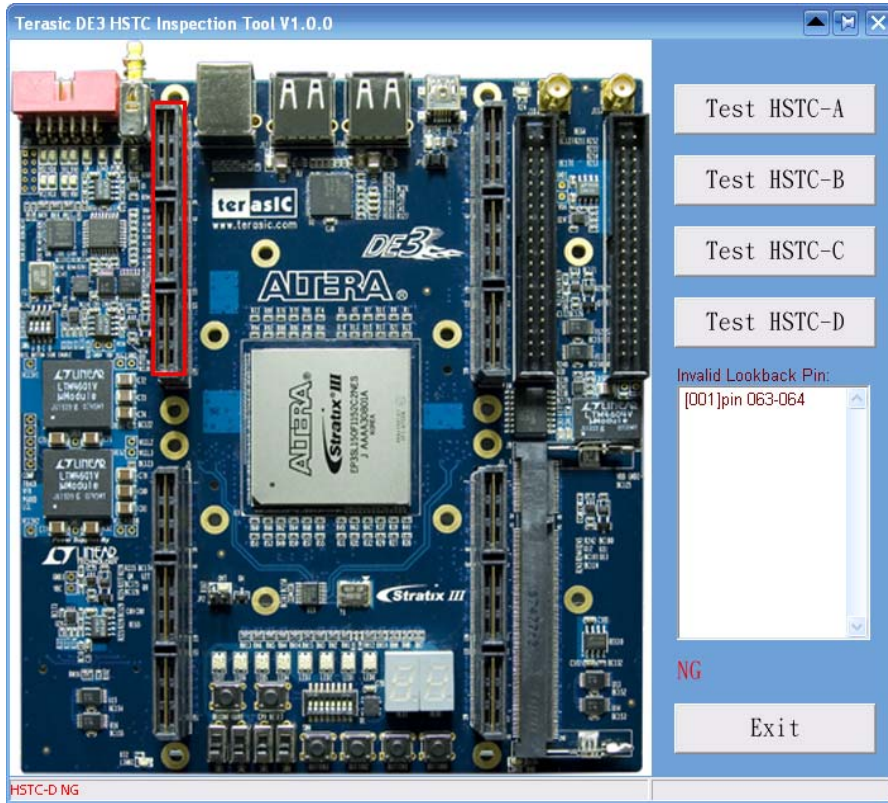

Figure D.5. The reported message of the invalid I/O pins
8. If the test result is failed, the HSTC pin number of the invalid pins will be listed on the panel of the DE3_HSTC utility as shown in Figure D.5.